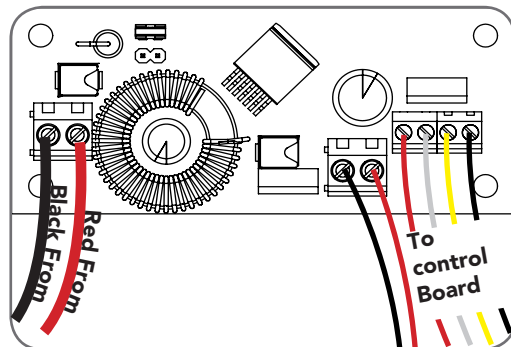

Fig 07
2. Connect the **red wire** to the Charger Board's "SOLAR+" connector, and the **black wire** to the "-SOLAR" connector (Fig. 07).
5. Connect the **red wire** to the Charger Board's "BAT+" connector, and the **black wire** to the "-BAT" connector (Fig. 07).